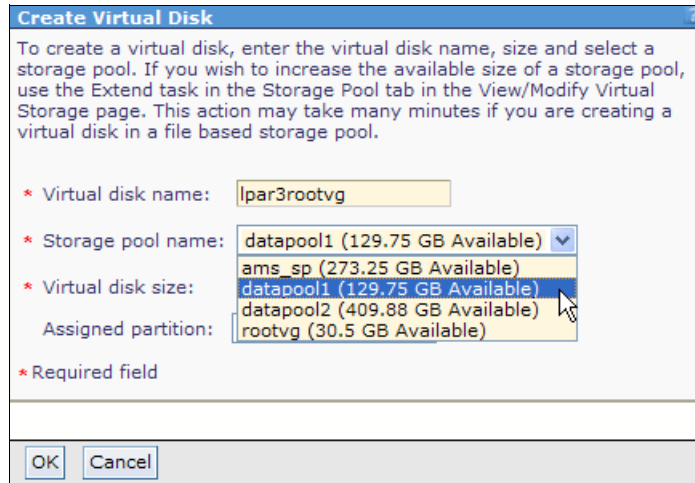

Figure 4-11 Create Virtual Disk: name and storage pool
3. A new window is displayed. Enter a name for the virtual disk, select a storage pool name from the drop-down list, as shown in Figure 4-11.